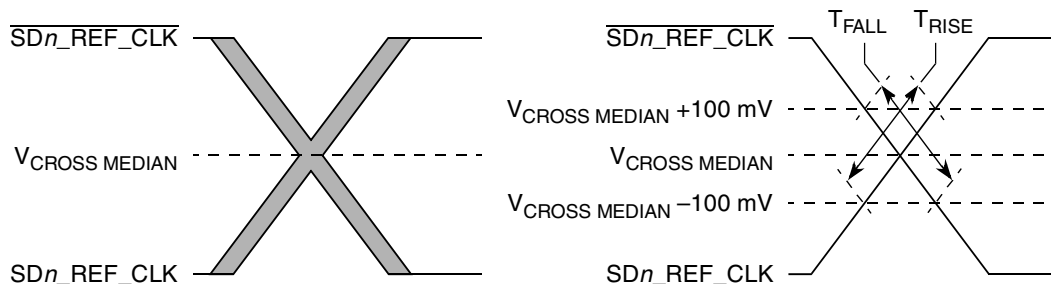

Figure 61. Single-Ended Measurement Points for Rise and Fall Time Matching
4. Matching applies to rising edge rate for $\overline{SDn_REF_CLK}$ and falling edge rate for $\overline{SDn_REF_CLK}$. It is measured using a 200 mV window centered on the median cross point where $\overline{SDn_REF_CLK}$ rising meets $\overline{SDn_REF_CLK}$ falling. The median cross point is used to calculate the voltage thresholds the oscilloscope is to use for the edge rate calculations. The Rise Edge Rate of $\overline{SDn_REF_CLK}$ should be compared to the Fall Edge Rate of $\overline{SDn_REF_CLK}$, the maximum allowed difference should not exceed 20% of the slowest edge rate. See Figure 61.